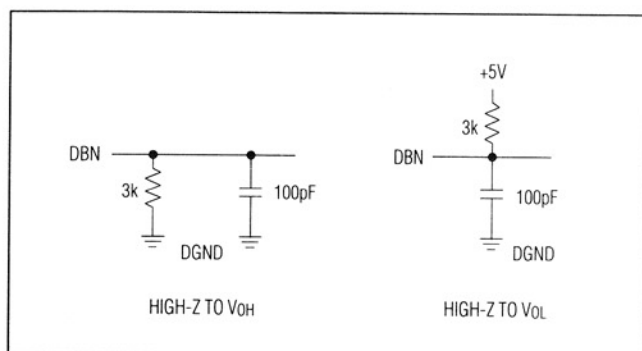

Figure 3. Load Circuits for Access Time Test ( $t_{13}$ )
**Note 6:** t13, the time required for an output to cross 0.8V or 2.4V, is measured with the load circuits of Figure 3.